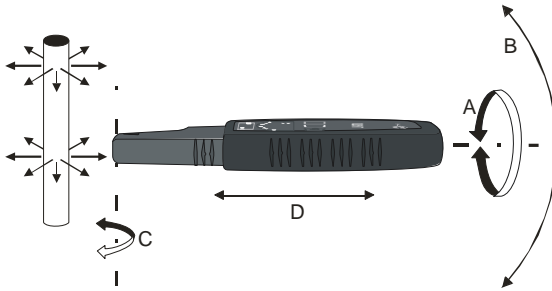

Fig.6 Electric field detection
Measurements in an open-circuit should be carried out if there is no way to force a current flow through the circuit. This is the case in a healthy long line that is not live, where using an external power source capable of generating sufficient current would be cumbersome or where the line is interrupted. In both cases the detection is through evaluation of the electric component of the field. Fig.6 illustrates the direction of the electric field lines around a live cable, and the placement of the receiver allowing for the highest possible intensity of the received signal.
- Move the receiver's antenna along the tested line (Fig.6) trying to follow the maximum strength of the signal. Press the **16**  button to increase the precision (section 7.1).